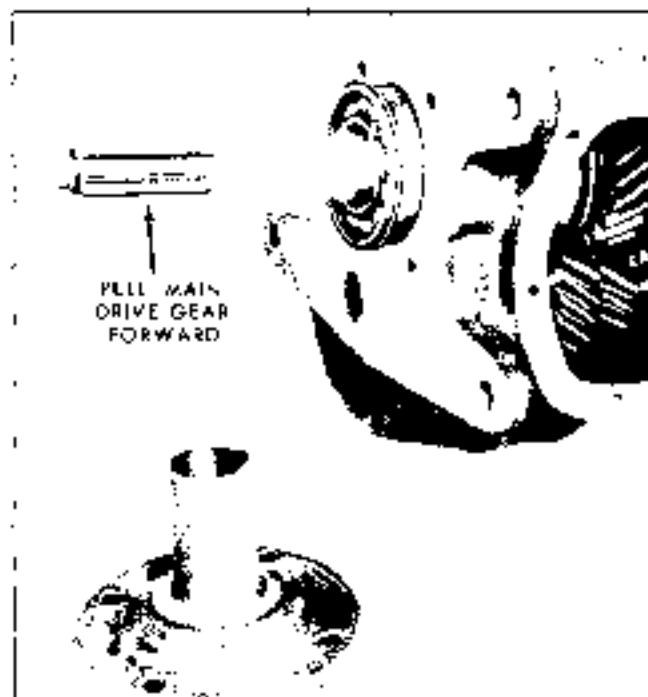

Fig. 7B-9 Removing Front Bearing
19. Using hydraulic or arbor press, press off rear bearing, spring washer, thrust washer and reverse gear (Fig. 7B-16).
20. Remove first speed synchronizer snap ring (Fig. 7B-10).